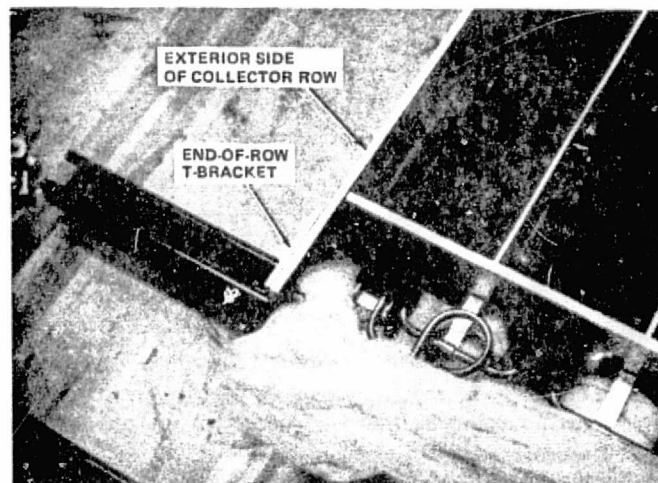

Figure 3-11. Bolted Lower T-Bracket
1. Before positioning the first collector on the UNISTRUT, remove the six sheet metal screws holding the transition cover at the base of the collector. Remove the transition cover and attach an end-of-row T-bracket (without pins) to the side of the collector that will face out, (Figure 3-11), using two bolts for each bracket. Removal of the transition cover is only required for end-of-row collectors.
1. Before positioning the first collector on the UNISTRUTS, remove the six sheet metal screws holding the transition cover at the base of the collector. Remove the transition cover and attach the two end-of-row T-brackets (without pins) to the side of the collector that will face out, (Figure 3-11), using two bolts for each bracket. Removal of the transition cover is only required for end-of-row collectors.
2. Remove the six sheet metal screws and the transition section cover. Attach an end-of-row bracket (without pins), similar to Figure 3-11, to the outer side of the collector using two bolts. Removal of the transition section cover is only required for end-of-row collectors. Re-install the transition section cover. Use two bolts to attach the other end-of-row bracket to the same side of the collectors.